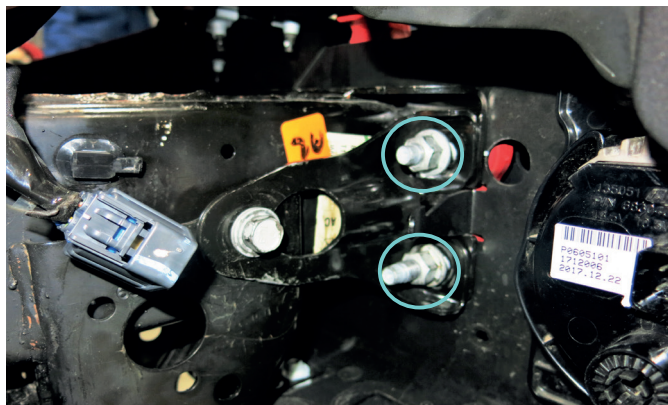

Fig. 7
7. Unscrew 8 nuts from the OE bumper (four on each side). Remove OE bumper, remove horn (on JK only) (Fig. 7).